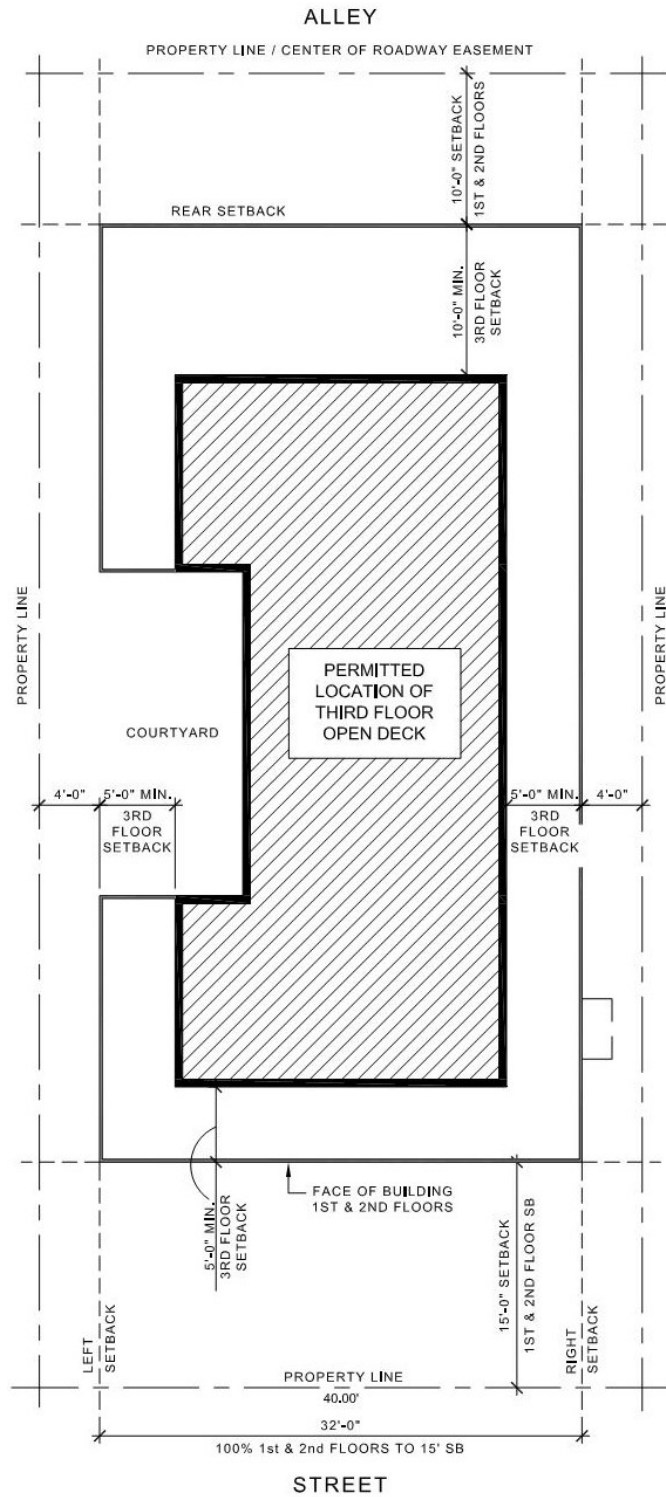

Figure 10
- b. **15' Minimum Front Setback** - Minimum of five (5') feet from the face of the dwelling. (see Fig. 10)
C.7.2 FIGURE 10: THIRD FLOOR SETBACK, REQUIREMENTS & LOT DIAGRAMS